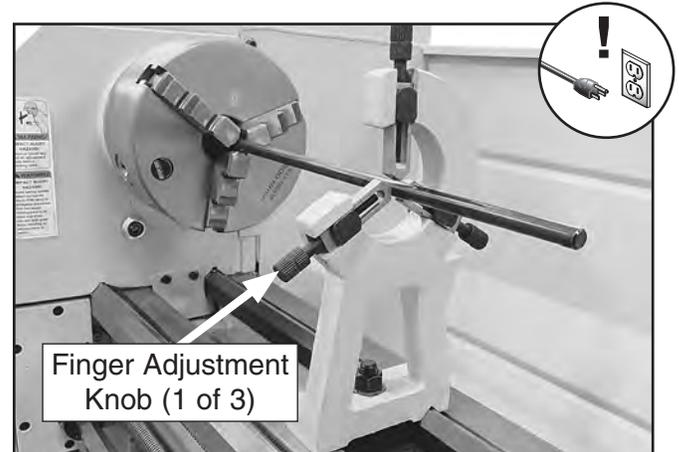

Figure 50. Example of workpiece mounted in steady rest.
5. Use finger adjustment knobs (see **Figure 50**) to position fingers so they just touch workpiece without causing deflection.